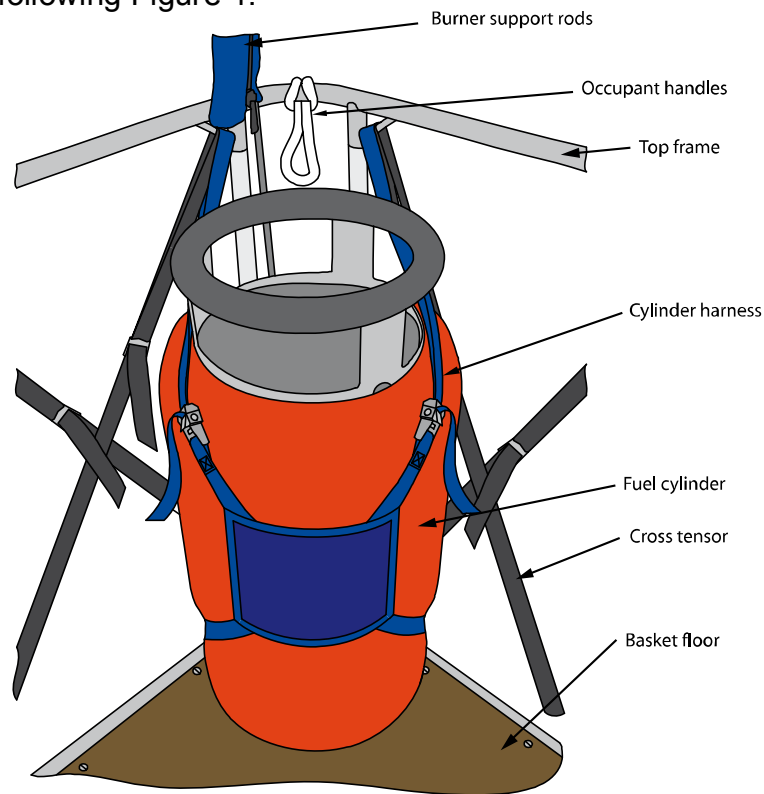

Figure 1 – Cylinder installation inside the basket
- For cylinders installed inside the basket, the cross-harness supplied must be fitted to each cylinder. These should be attached so as not to allow any up and down as well as lateral movement, as shown in the following Figure 1: